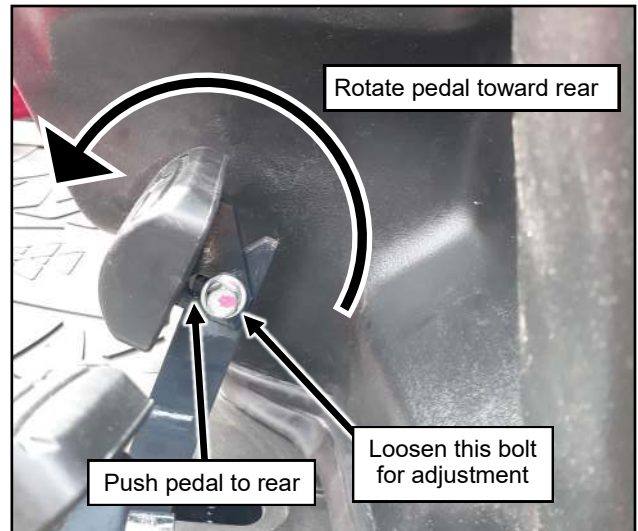

Fig. 1.9 (Adjust Accelerator Pedal)
- 1.9 Per Figure 1.9, loosen the bolt holding the accelerator pedal to the lever.
**NOTE:** GC1725M Accelerator pedal shown in Figures 1.9 and 1.10. Adjustment procedure is identical for GC1723E.